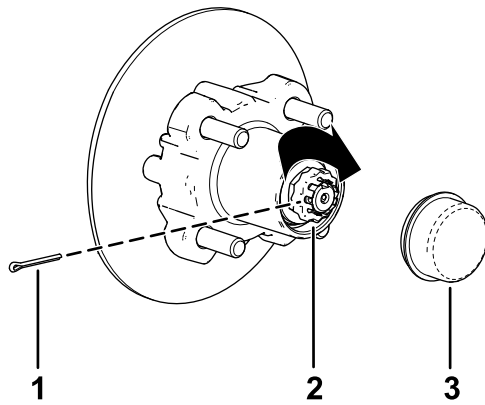

Figure 26
8. Install the retainer over the nut and check the alignment of the slot in the retainer and the hole in the spindle for the cotter pin (Figure 26).